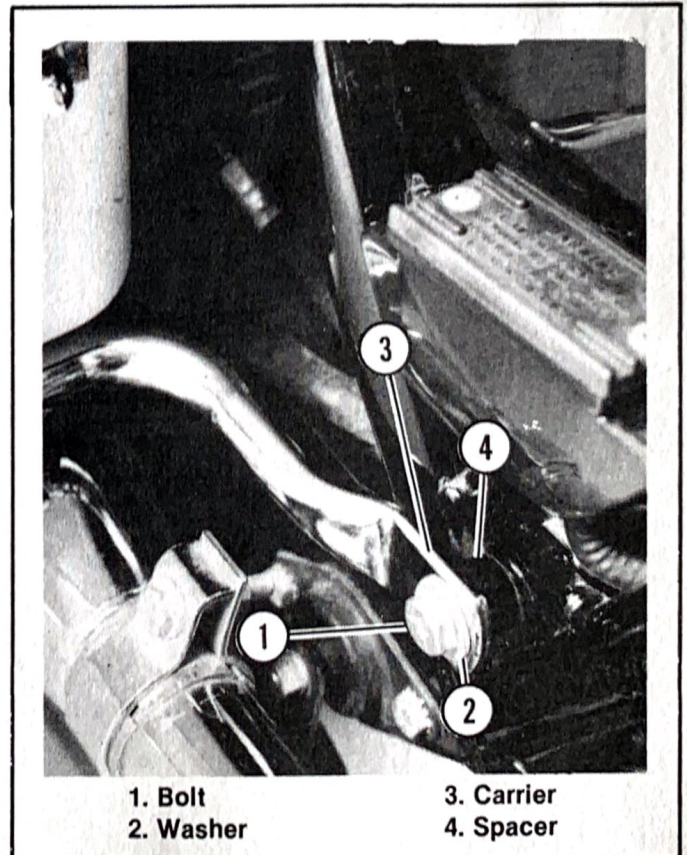

Figure 2-12. Saddlebag Carrier Lower Mounting
3. See Figure 2-12. Remove bolt from saddlebag carrier and lower frame. Be sure to retain spacer. Remove bolts and nuts attaching bag frame brace at rear of vehicle to saddlebag carrier. The saddlebag carrier and the radio carrier can now be removed.
6. See Figure 2-12. Insert bolt (1) through washer (2), saddlebag carrier (3), spacer (4) and frame. Place a lockwasher on the bolt. Thread a nut onto the bolt and tighten securely.